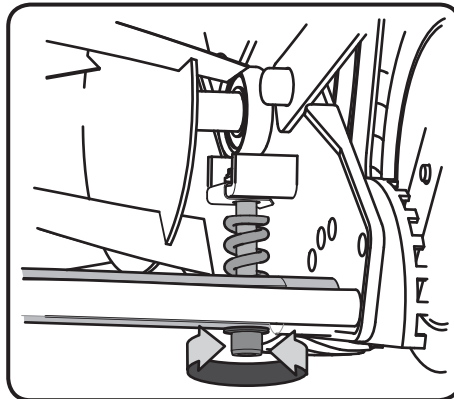

Fig. 6
- Using a hex key, tighten the adjustment bolts (one on each end) 1/4 turn (Fig. 6).